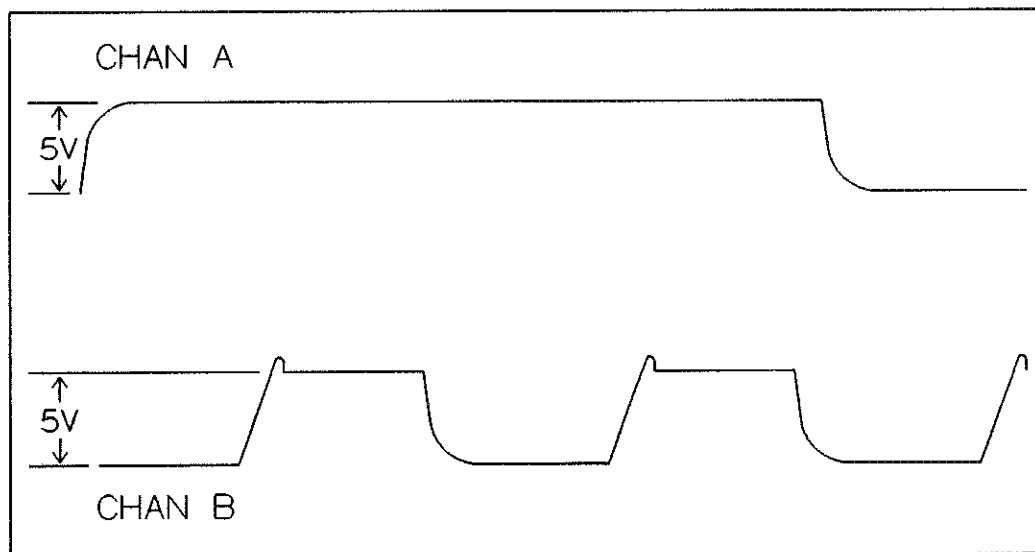

Figure 21-8 Trigger Input Test Waveforms
17. Change the oscilloscope Time setting to 2 μ S/Div. Verify that the waveform displayed on the oscilloscope is as shown in Figure 21-8.
34. Change the oscilloscope Time setting to 2 μ S/Div. Verify that the waveform displayed on the oscilloscope is as shown in Figure 21-8.